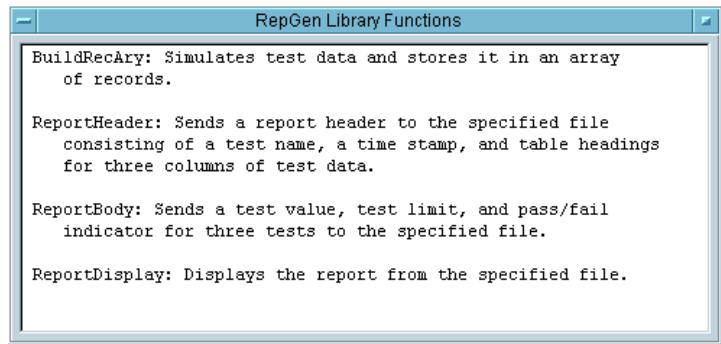

Figure 226 The RepGen.vee Library of UserFunctions
- 3 Select **Display** ⇒ **Note Pad** and type the UserFunction descriptions similar to the ones shown in Figure 226. Then save the program as **RepGen.vee**.